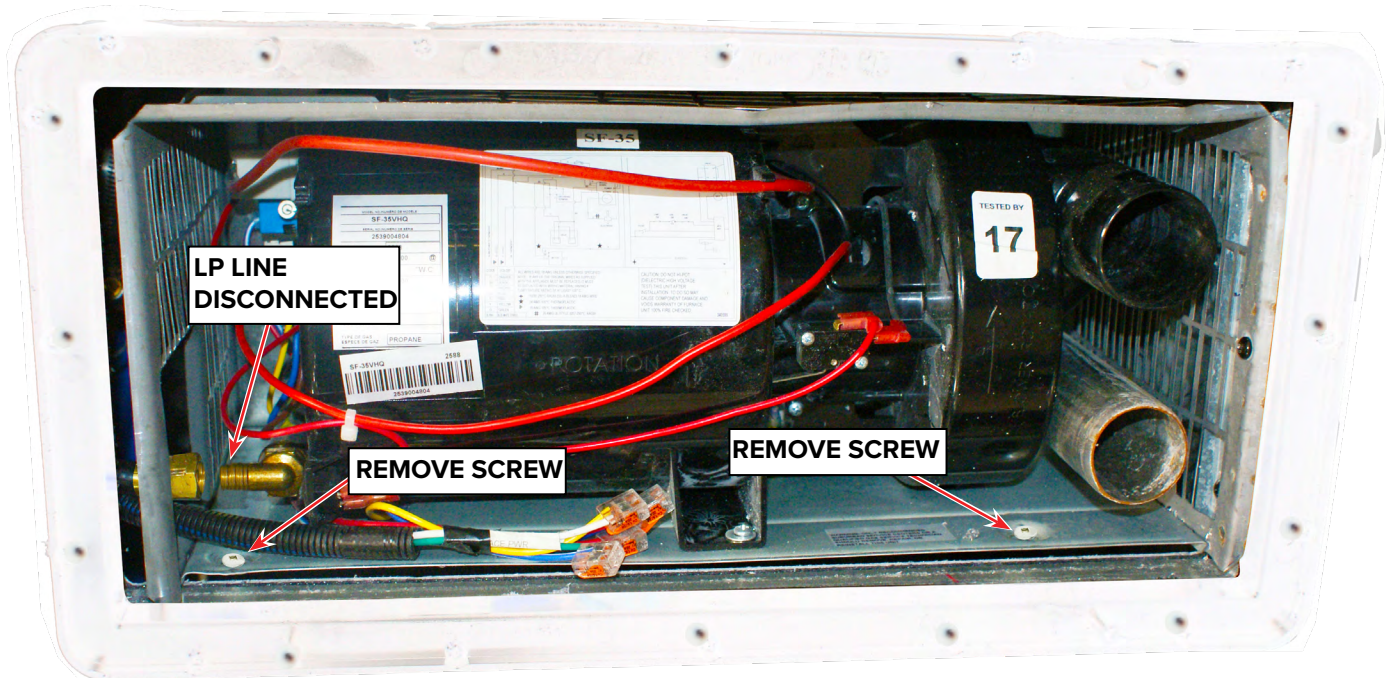
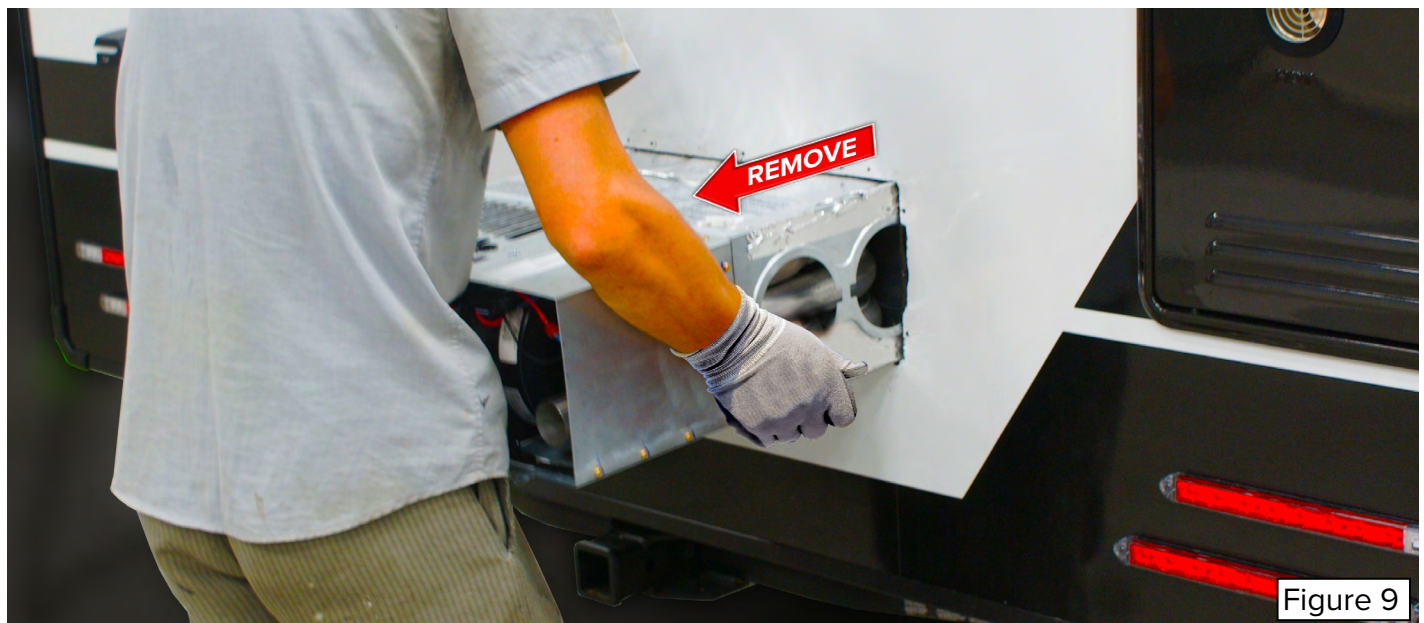

Figure 8
Figure 9
- 10. Use a screw gun and #2 square drive bit to remove the two (2) screws securing the furnace to the floor (Figure 8). Carefully lift and remove the furnace from the opening (Figure 9).**